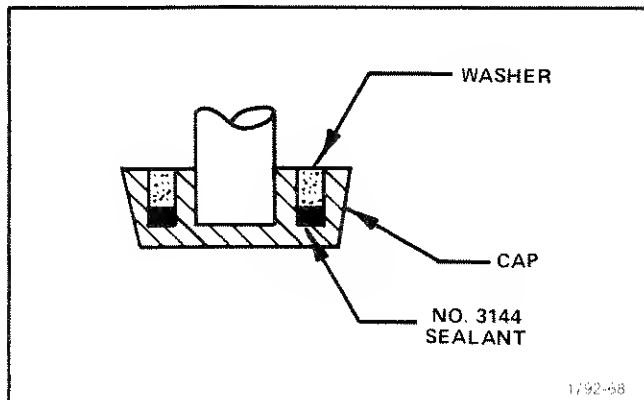

Fig. 5-14. Detail of Fuseholder Caps.
15. Install Fuseholder Caps (see Fig. 5-14)